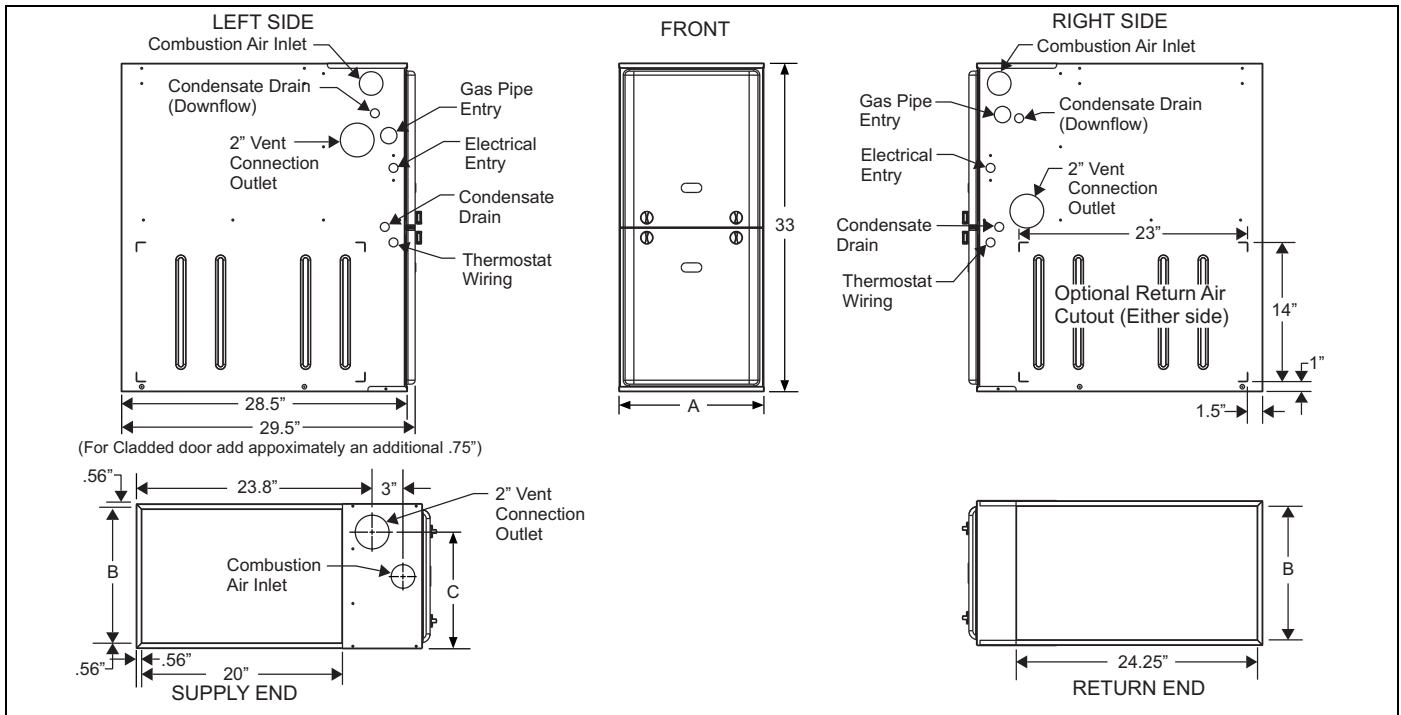

FIGURE 13: Dimensions
*Some accessories such as electronic air cleaners and pleated media may require a larger side opening. Follow the instructions supplied with that accessory for side opening requirements. **Do not** cut the opening larger than the dimensions shown in Figure 13.*